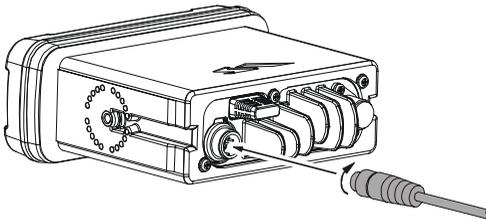

Figure 2
1. Connect the RAM+ MIC Cable to the **RAM MIC CONNECTOR** on the rear panel of the **Phantom PS1000**, then tighten the Cable Nut (See Figure 2).